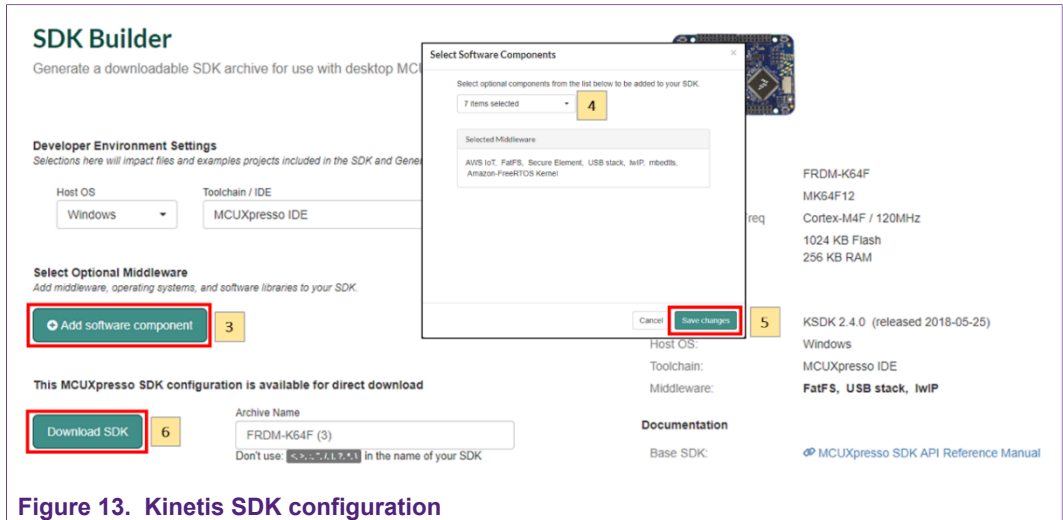

Figure 13. Kinetis SDK configuration
1. In the next screen, select the software components, for this example no special items need to be selected and you can skip this step (see Figure 13) and directly click on 'Download SDK'.